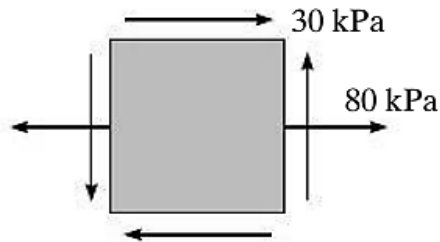

Fig. 3
9. For the given state of stress (see Fig.3) draw the Mohr Circle using a convenient scale and mark the values of